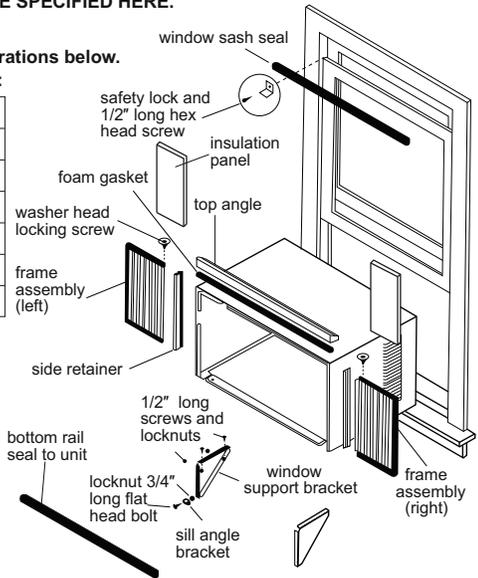

FIG.1
1. **Check window opening size:** the mounting parts furnished with this air conditioner are made to install in a wooden sill double-hung window. The standard parts are for window dimensions listed above. Open sash to a minimum of 19" (483mm). (FIG.1)